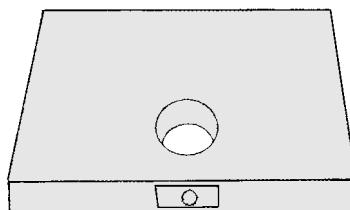

Figure 13.137 Door section with the old lock and latch removed. (M.A.G. Engineering and Mfg., Inc.)
1. Remove the lock, latch, and all screws (Fig. 13.137).